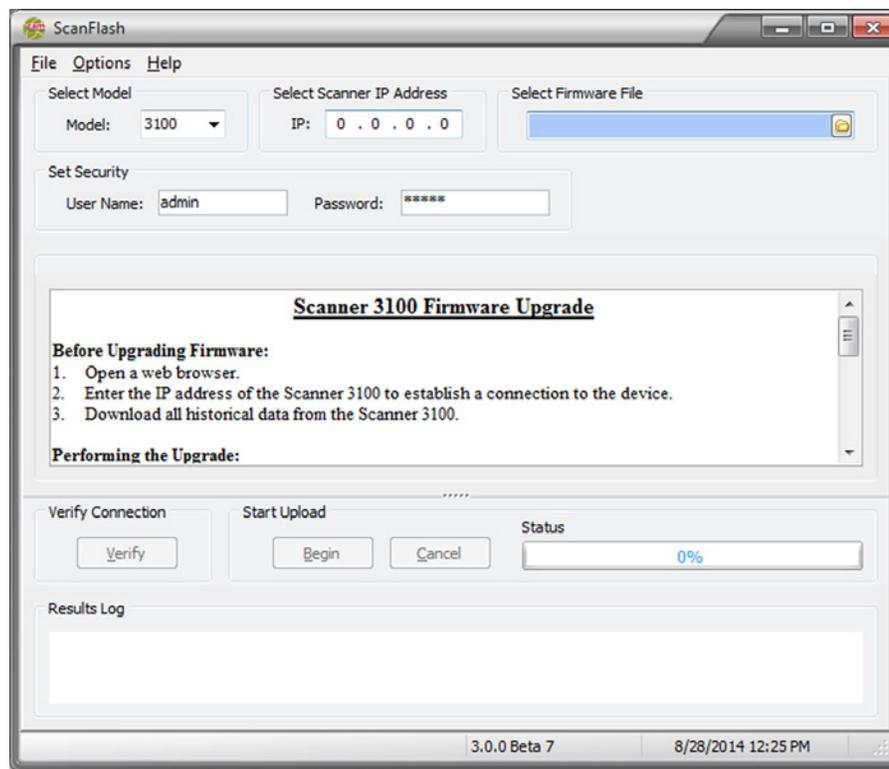

Figure C.1—ScanFlash interface
4. Open ScanFlash (shown in Figure C.1) and enter the IP address for the Scanner 3100.